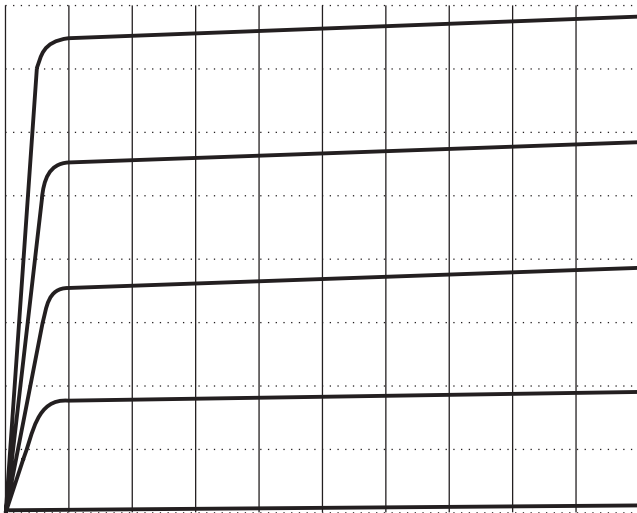

Figure 1
The  $I_{max}$  and  $V_{max}$  settings determine the operating range for the test and define how the curves are going to be displaying on the CRT screen. As shown in **Figure 1**, the upper edge of the grid represents the maximum value of the test current ( $I_C$ ,  $I_D$ ) according to the selected range ( $I_{max} = 200\text{ mA} / 20\text{ mA} / 2$
2. Ensure the BIP/FET switch ⑤ is set to the BIP position.
3. Select NPN or PNP as appropriate with the NPN/PNP switch ⑩.
4. Select the appropriate range for the maximum current ( $I_{max}$ ) ⑨, maximum voltage ( $V_{max}$ ) ⑫ and maximum power  $P_{max}$  ⑬.
5. Press the DUT switch ⑭. Five curves (see Figure 1 or 2) now will be visible on the screen.
6. The vertical position of the curves  $I_C = f(V_{CE})$  is determined by the base current  $I_B$  as parameter and can be adjusted stepwise by turning the rotary knob ⑧ while FUNCTION ⑦ is set to MAX or MIN. With MAX selected base current for the top curve will be set, with MIN selected that for the bottom curve. The three curves between these two will be displayed in equal distances. After the HM6042 is powered on, the base current is set to its minimum value.
7. Using the cursor functions, the calculated parameters are chosen by pressing the keys  $\leftarrow \rightarrow$  ⑤ and displayed on the LCD ④.